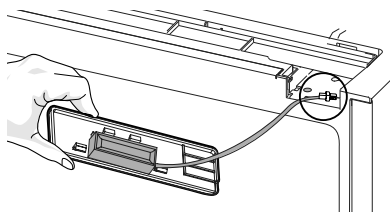

Figure 26
47. Connect the reed switch wiring harness to the cabinet harness (see Figure 26).